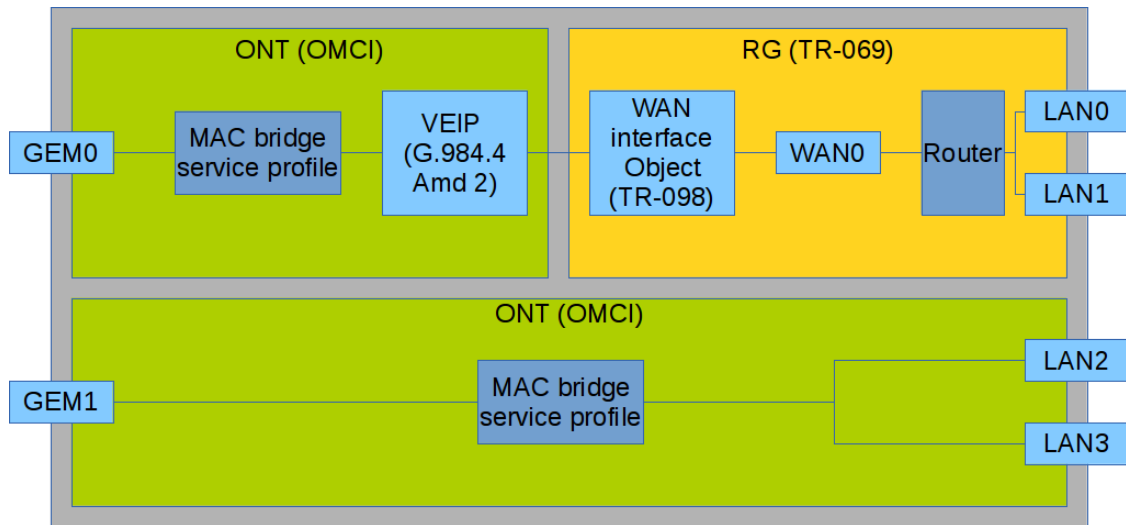

Fig. 39—Services Configuration in ONT and RG Domains
Fig. 39 shows two services (each with a corresponding GEM port on the ONT side), with one of them being **routed** and using both OMCI and RG management domains, and another one being **bridged** and using only OMCI for configuration. Access node configuration includes configuration of bridge interfaces (green areas in the figure) and distribution of LAN ports between management domains.
Consider an example of ONT configuration which simultaneously uses both management domains. Port numbers and internal structure are shown in Fig. 39.
Step 8. Configure a **ports** profile. According to Fig. 39, we need to associate the first two LAN ports with an RG management domain, with another two being associated with an OMCI domain and bound to bridge 1.